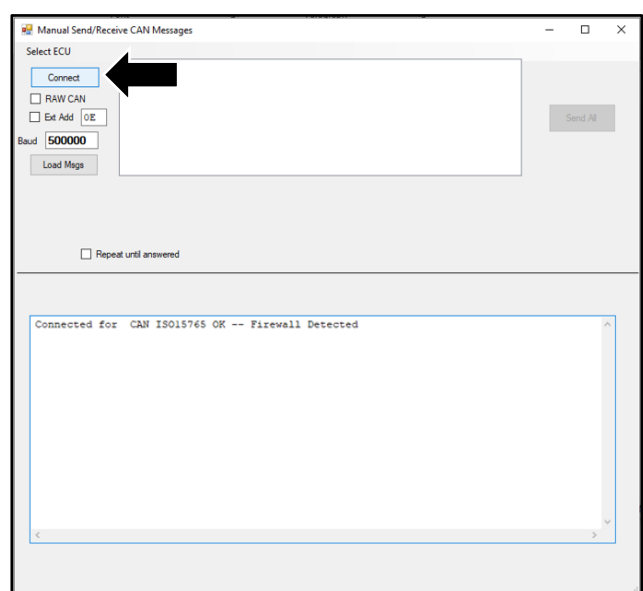

Figure 4
7. Click "Connect" (refer to Figure 4).